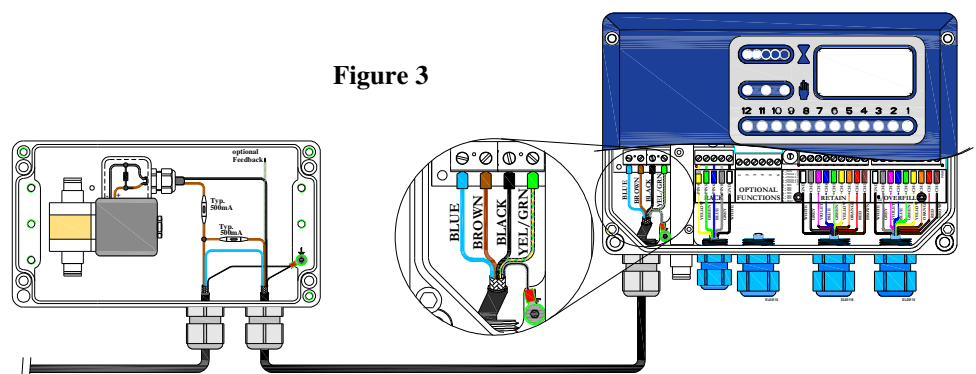

Figure 3
Wire the power into the power input terminal block as shown in **Figure 3**. Be careful to observe the correct polarity. The left most terminal is the negative (-) terminal, and the one just beside it is the positive (+) terminal. Applying the power with the incorrect polarity will not damage the monitor,
but since the negative (-) terminal is directly connected with the chassis it will blow the external inline fuse. One (1) terminal (black in Figure 3) in this NON-Intrinsically safe compartment is used to energize a solenoid. Solenoid and junction box must be mounted in appropriate location. The last terminal is designated for detecting feedback of the solenoid. Solenoid must be protected by means of an inline fuse (max. 1Amp).